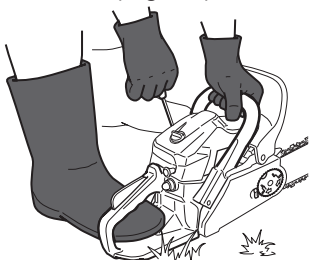

Fig. 27
- > If the engine is warm, leave the choke knob (25) in its opened position and do not prime.
- > Hold the product securely to the ground and put your foot on the rear hand safeguard (10), then pull the starter handle (23), vigorously 3 to 4 times. Do not start the engine while handling the product with one hand (Fig. 27).